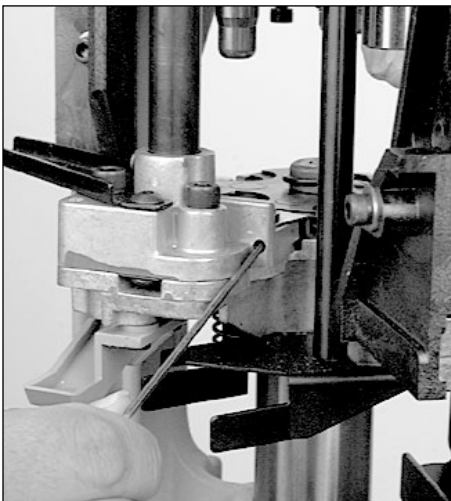

FIG 194
2. Using a 5/64" Allen wrench, insert it into the side of the primer feed body FIG 194. Turn the screw to adjust the locator tab. A turn clockwise will move the tab back away from the shellplate and a turn counter clockwise will adjust it closer to the shellplate.